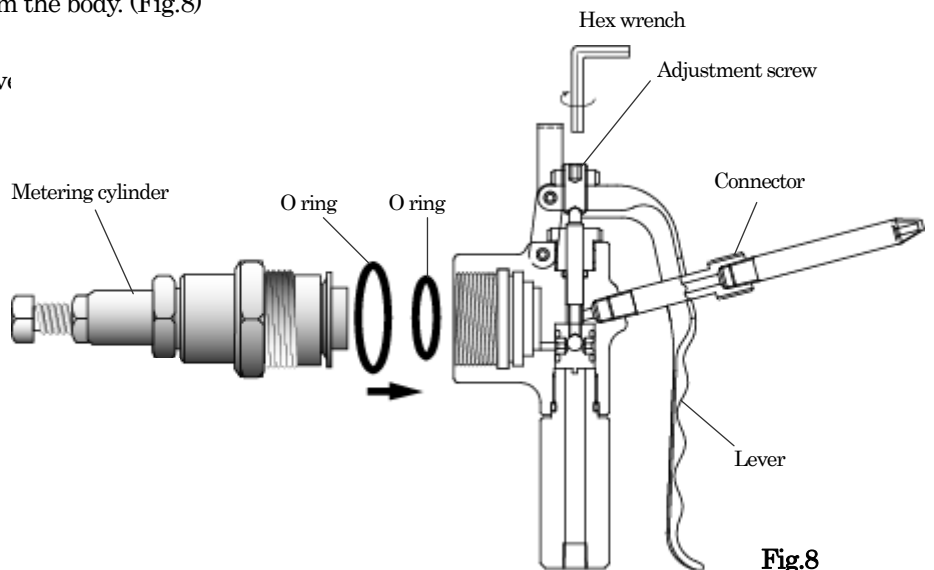

Fig.8
- ① Unscrew the metering cylinder to remove it from the metering gun body. Remove two O rings from the body. (Fig.8)